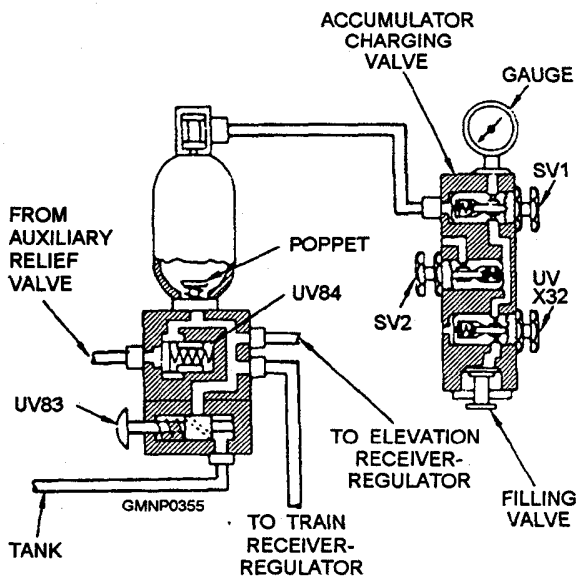

Figure 6-8.—Servo accumulator (schematic diagram),
**SERVO ACCUMULATOR.**— The servo accumulator (fig. 6-8) maintains a reserve of servo pressure to meet peak demands for both the train and elevation power drives. Servo pressure enters the accumulator through a spring-loaded check valve,